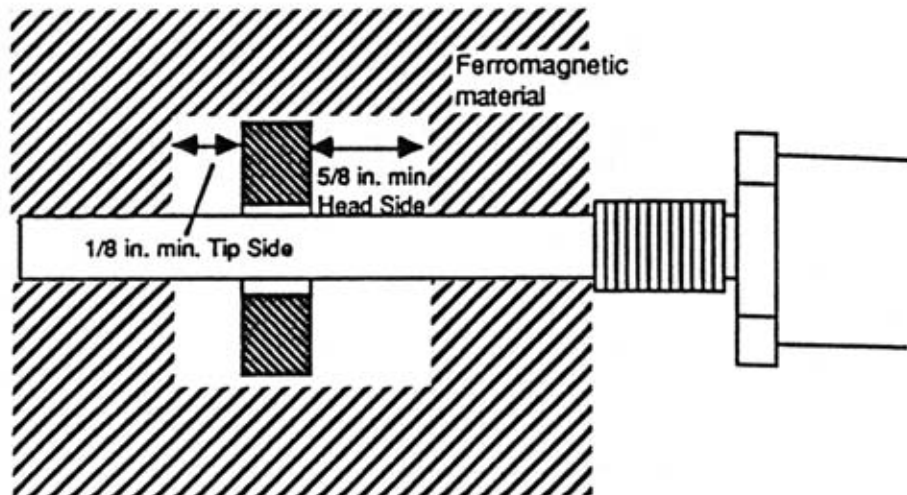
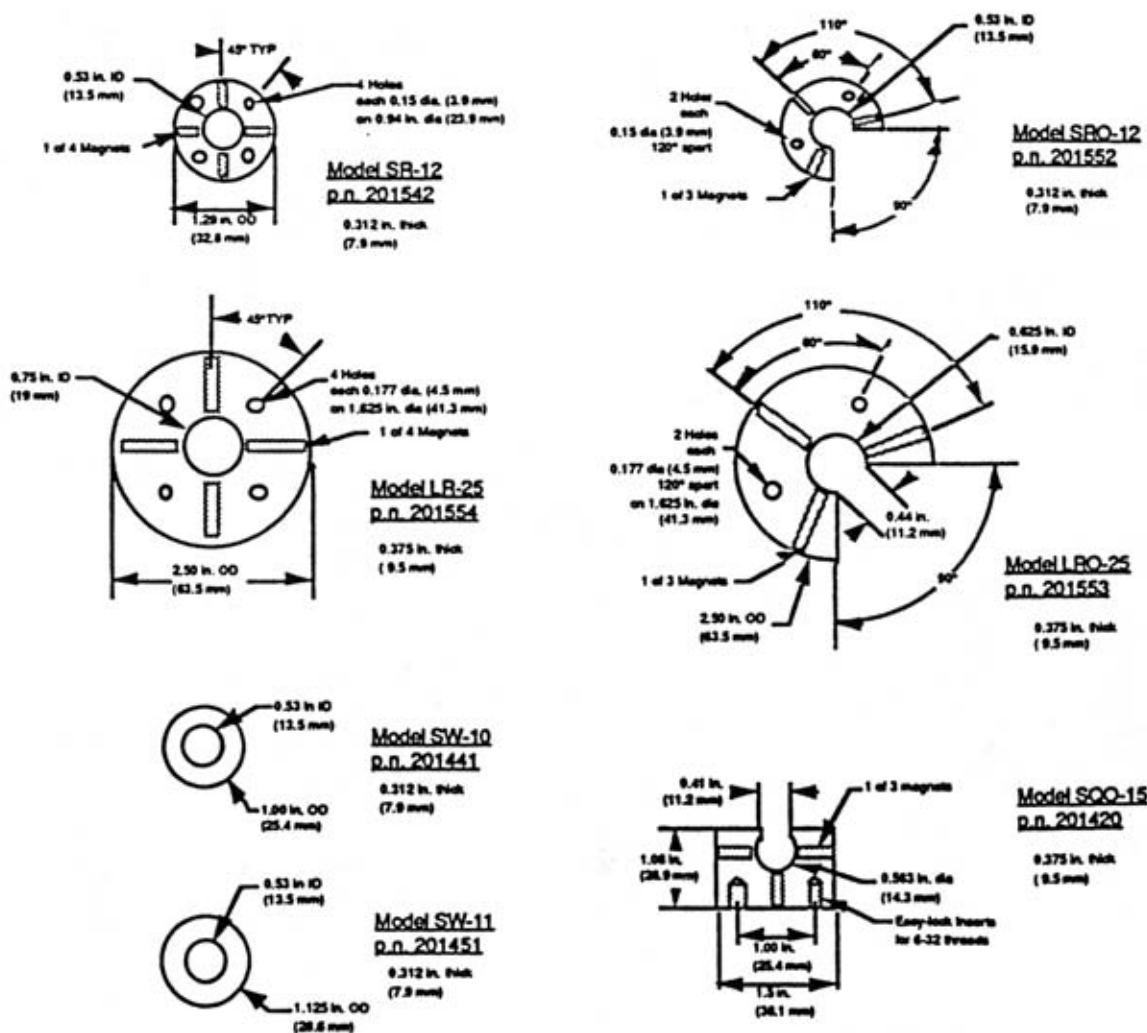

Figure 3-2. Ferromagnetic Material Mounting Specifications
Figure 3-3. Types of Magnets
2. Install the permanent magnet over the LDT rod. The permanent magnet is mounted to the movable device from which displacement is to be measured. To minimize the effect of ferromagnetic materials (such as iron, nickel, steel, etc) on the magnetic field of the permanent magnet, ensure the minimum spacing requirements are met as shown in Figure 3-2. Any non-magnetic materials can be in direct contact with the permanent magnet. Types of magnets are shown in Figure 3-3.
2. Install the permanent magnet over the LDT rod. The permanent magnet is mounted to the movable device from which displacement is to be measured. To minimize the effect of magnetic materials on the magnetic field of the permanent magnet, ensure the minimum spacing requirements are met as shown in Figure 3-2. Only nonmagnetic materials can be in direct contact with the permanent magnet.